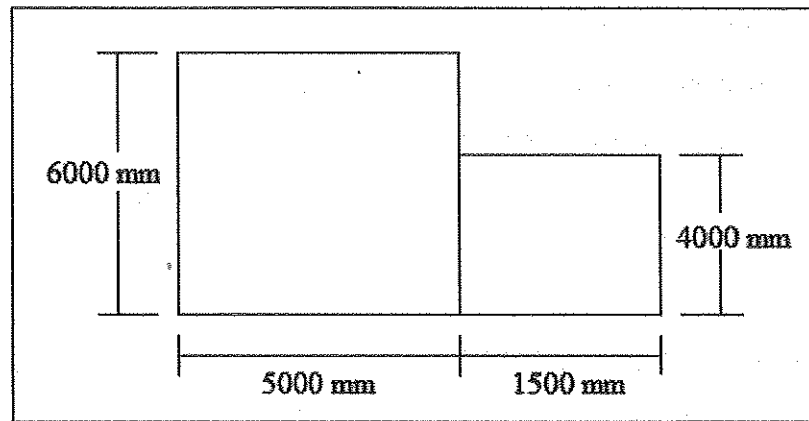

Figure 2 / Rajah 2
- (a) Based on the floor plan given in Figure 2 below, calculate the estimation cost by using floor area method. Assume that the price rate for 1 m^2 is RM50.